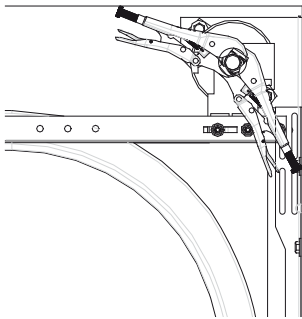

Fig: 3.7.2
- Secure the torsion bar using 2 pipe wrenches as shown in Fig 3.7.2.